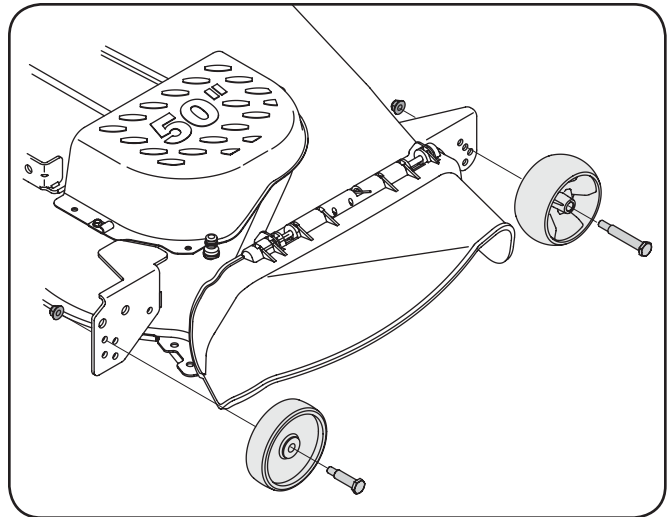

Figure 3-4
- secure them to the deck. See Fig. 3-4